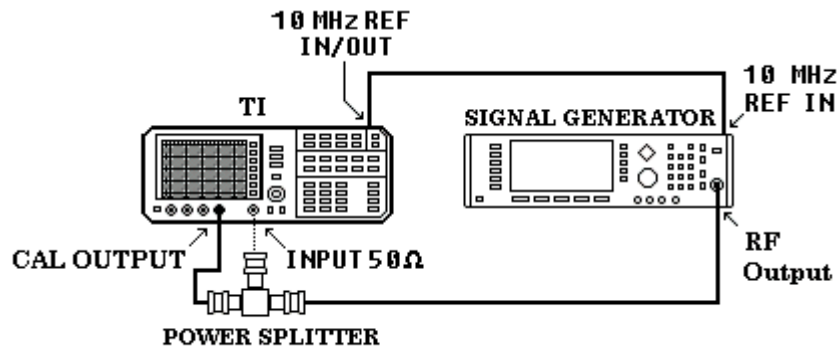

Figure 4. Frequency span accuracy - equipment setup.
- (1) Connect equipment as shown in figure 4.